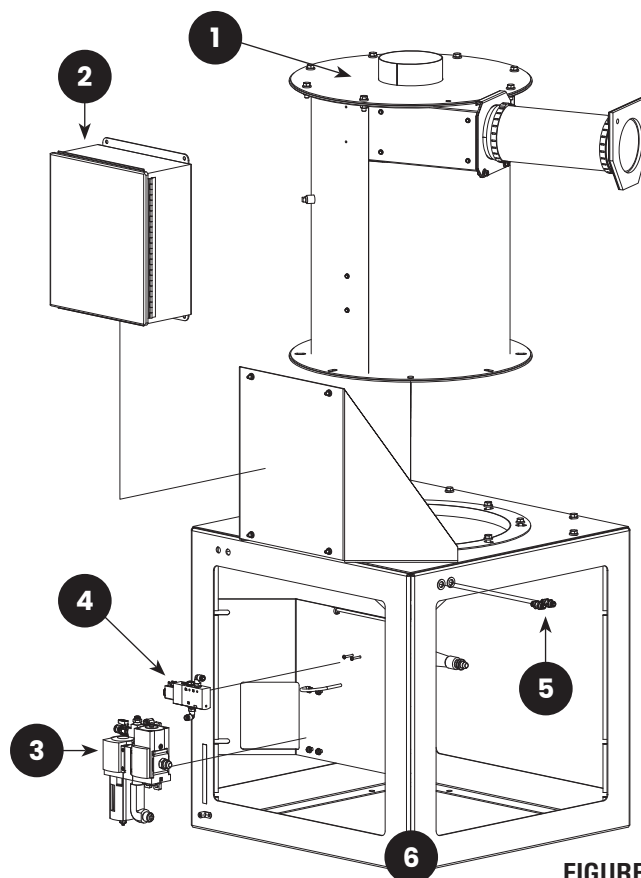

FIGURE 17
9.3 | Reclaim Module Replacement Parts – Figure 17